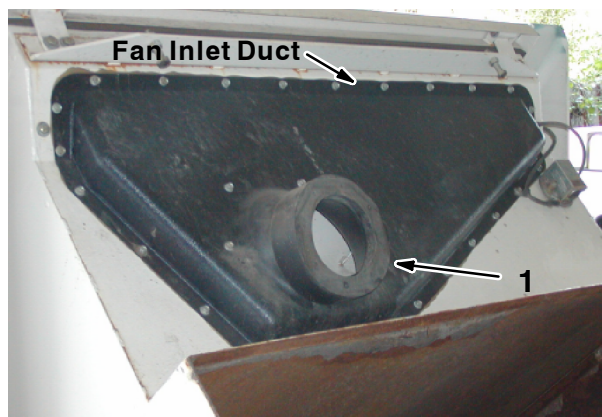
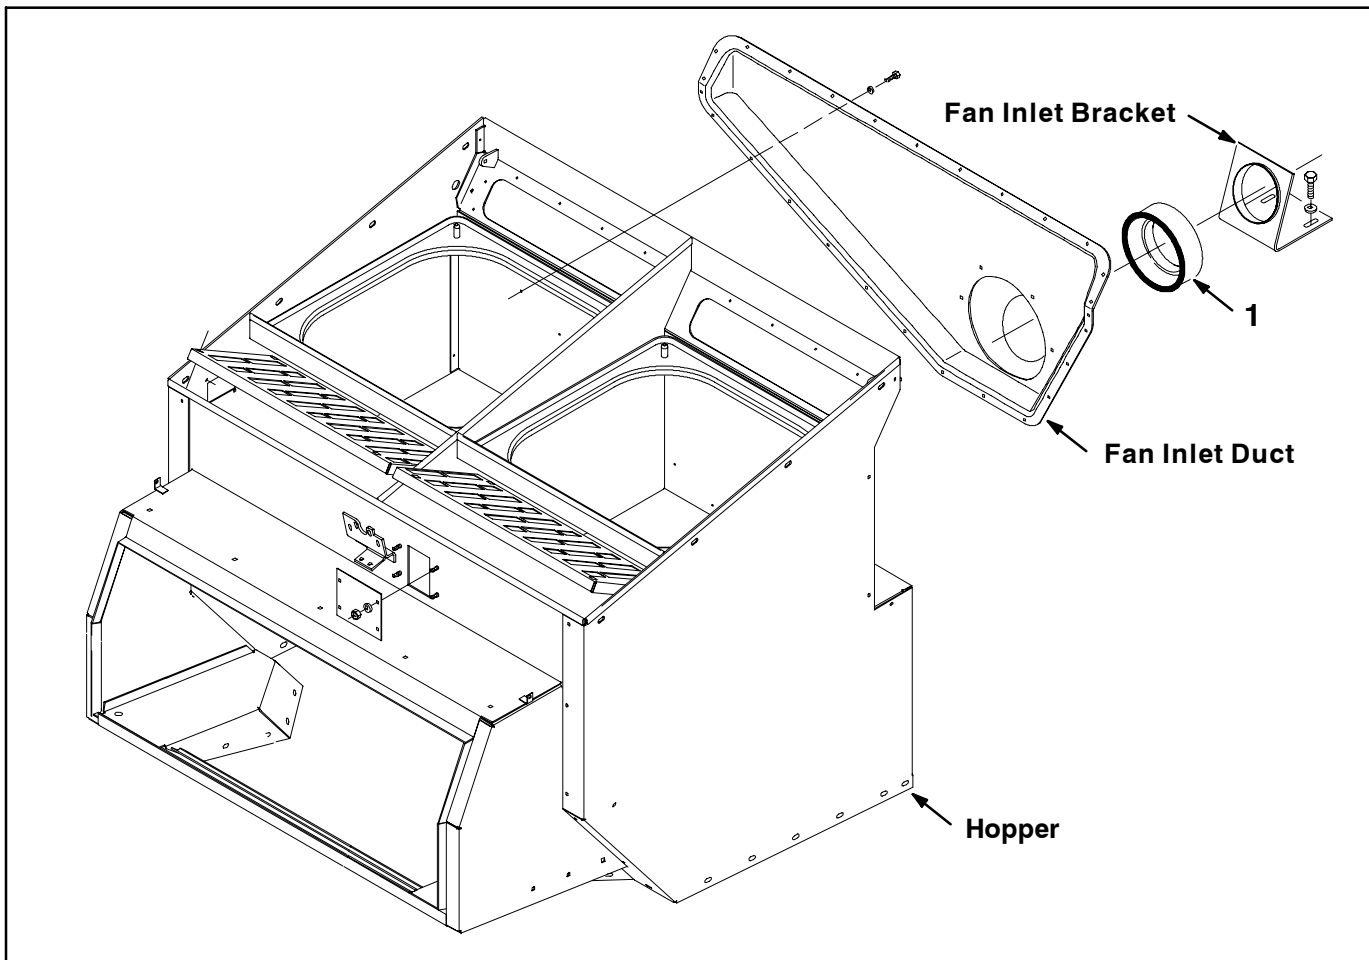

FIG. 2
FIG. 3-Hopper and Fan Inlet Duct Assembly
*NOTE: **Do Not** use RTV sealant to attach the gasket (1) to the fan inlet duct.*
2. Thoroughly clean both the surface of the area where the gasket (1) will be mounted onto the fan inlet duct and the gasket with isopropyl alcohol.
3. Apply a coat of sealant (2) onto the gasket (1) and install the gasket onto the fan inlet duct. Refer to Fig. 2 and Fig. 3.